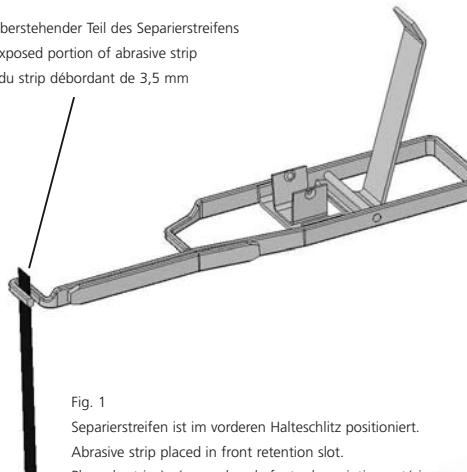

Fig. 1
- Place abrasive strip into front retention slot as shown in fig. 1. The strip should be placed with at least 3.5 mm exposed above instrument. This will insure a proper mechanical lock in step 3.